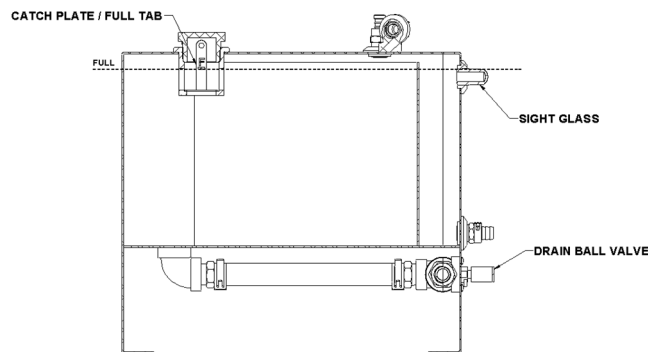

Figure 10-3 – Oil Reservoir
4. Install rubber or silicone hose over the hose barb on the oil system ball valve. See Figure 10-3 – Oil Reservoir.